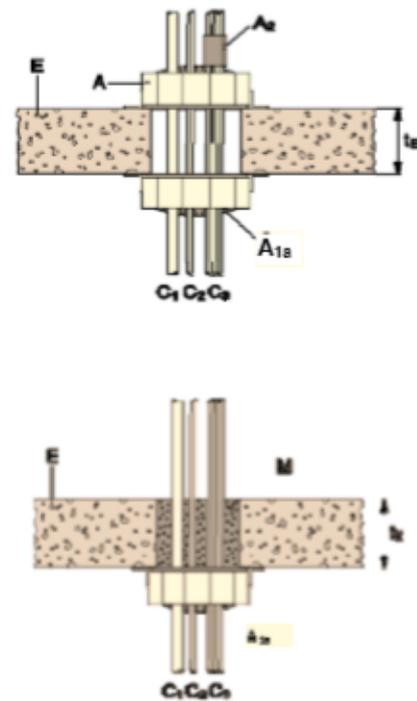

Figure 12: Floor penetration
- Hilti Firestop Cable Collar CFS-CC (A) on both sides of the floor, thickness of penetration seal ( $t_A$ )  $\leq 250$  mm
- Penetrating elements ( $C_1$ ) - see illustration Figure 12 in Annex C.3.2 of the ETA
- Hilti Firestop Cable Collar CFS-CC (A) on both sides of the floor, thickness of penetration seal ( $t_A$ )  $\leq$  250 mm